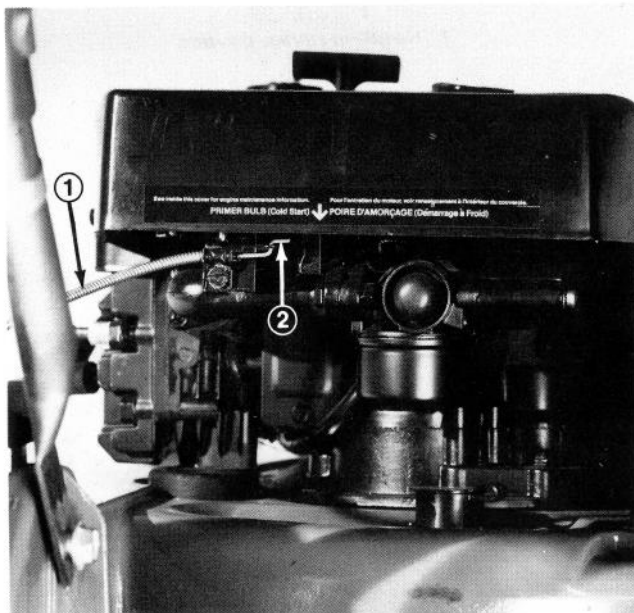

Figure 37
4. Loosen cable clamp screw until throttle cable is free to slide (Fig. 37).
5. Move carburetor control arm to the left until it contacts grounding bracket (Fig. 37). Pull throttle cable slightly to remove any slack and tighten the cable clamp screw to lock the adjustment in place.